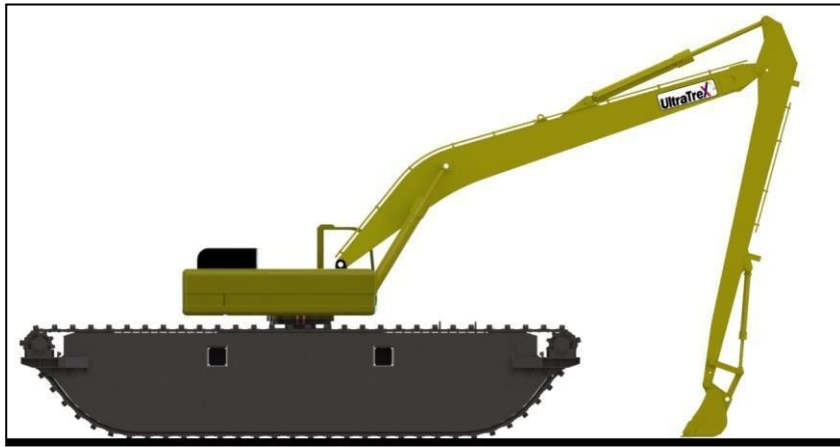

Figure 5.0: Amphibious excavator position for maintenance
1. Park the machine on a level surface and lower the bucket to the ground. Remove the ignition key from the switch and lock the cabin door. Refer to Figure 5.0.